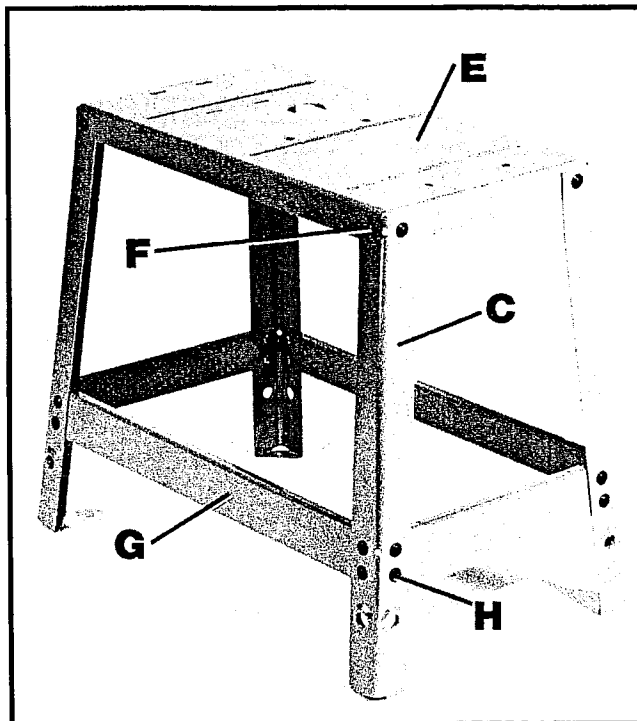

Fig. 2
1. Assemble the stand as shown in Fig. 2, using the 24 carriage bolts, 8 flat washers, 8 lockwashers and 24 hex nuts. **NOTE:** When fastening the legs (C) Fig. 2, to the shelf (E), use 8 carriage bolts (F), 8 flat washers, 8 lockwashers and 8 hex nuts. When fastening the tie bars (G) to the legs (C), use 16 carriage bolts (H) and hex nuts. Do not completely tighten the stand hardware at this time.